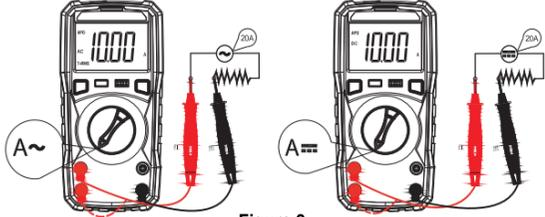

Figure 3
(2). AC/DC current measurement (Figure 3)